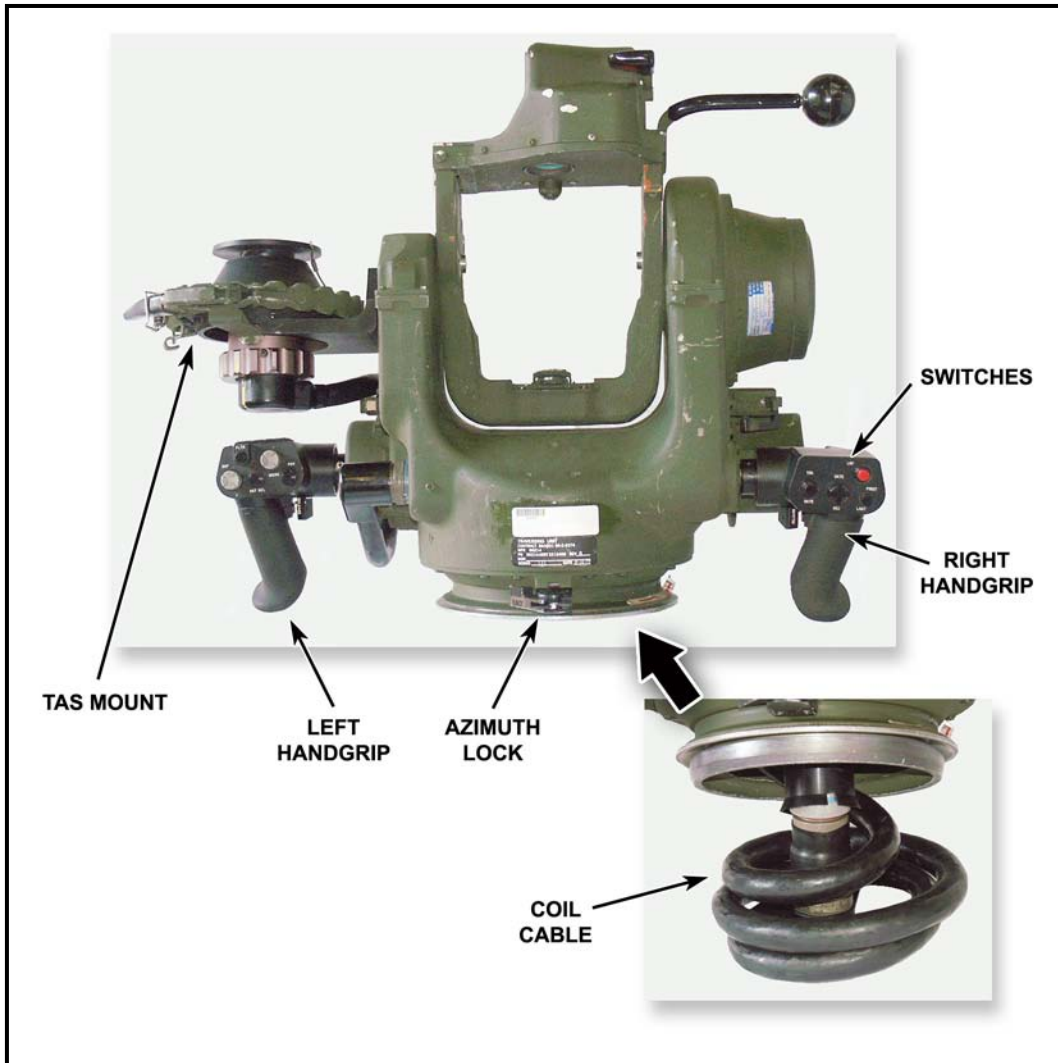
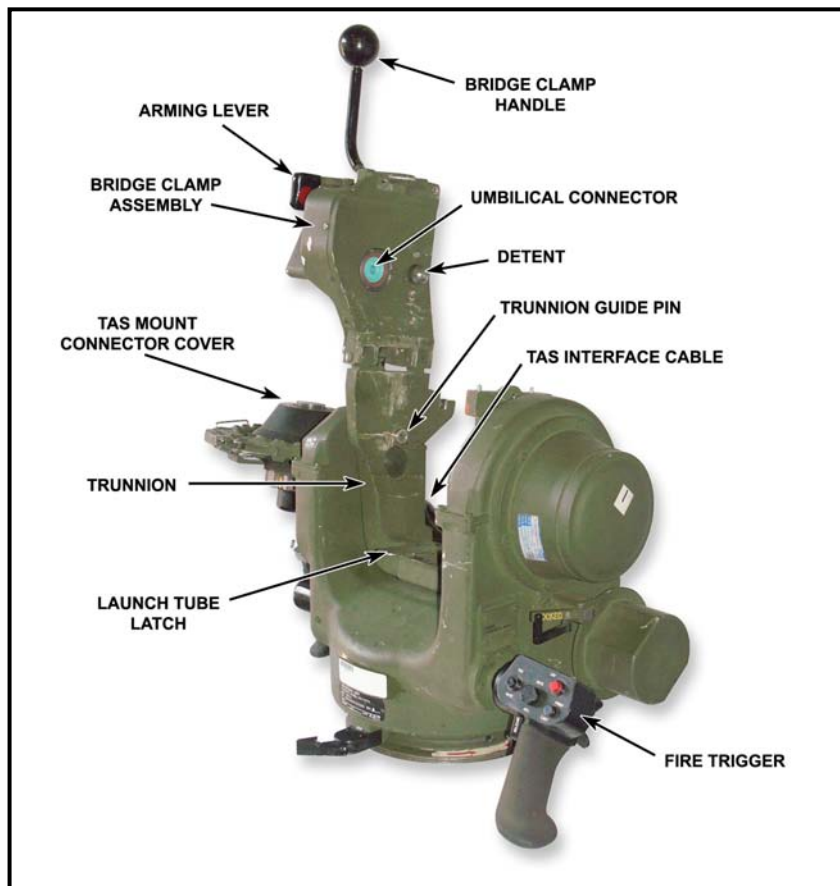

Figure 1-8. Traversing unit.
Figure 1-9. TU components.
e. **Traversing Unit.** The TU provides a stable mounting base for the TAS and launch tube along with gunner's controls to permit target tracking, missile firing, and missile guidance (Figure 1-8, page 1-10). It is mounted on the tripod or the TU adapter on the M1121 HMMWV. TU components (Figure 1-9, page 1-11) are: